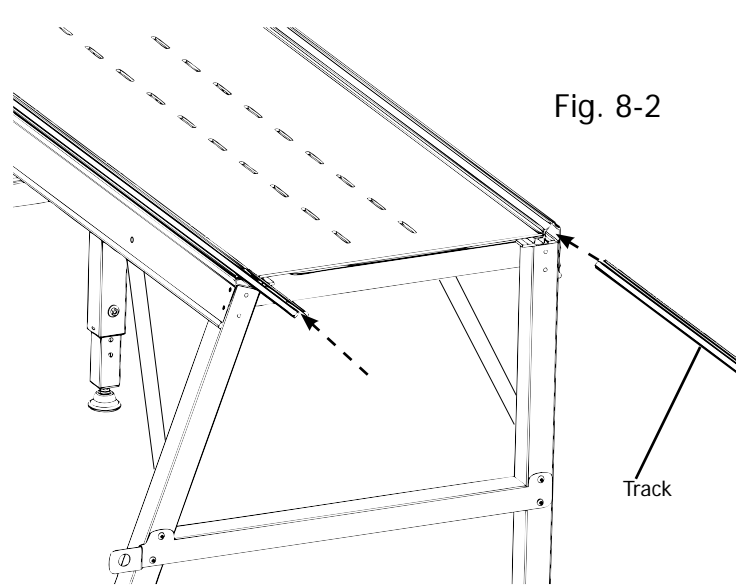

Fig. 8-2
**8-2:** Slide two pieces of Track into the Back Track Support, as shown in Fig. 8-2.